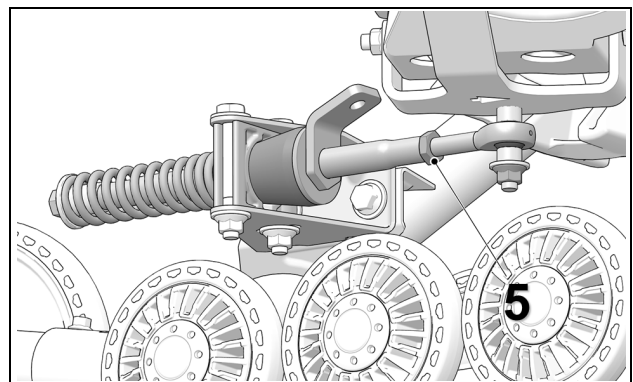

Figure 11
- Re-tighten jam nut (5) to 40 N•m [30 lb-ft] of torque when adjustment is complete. Figure 11.